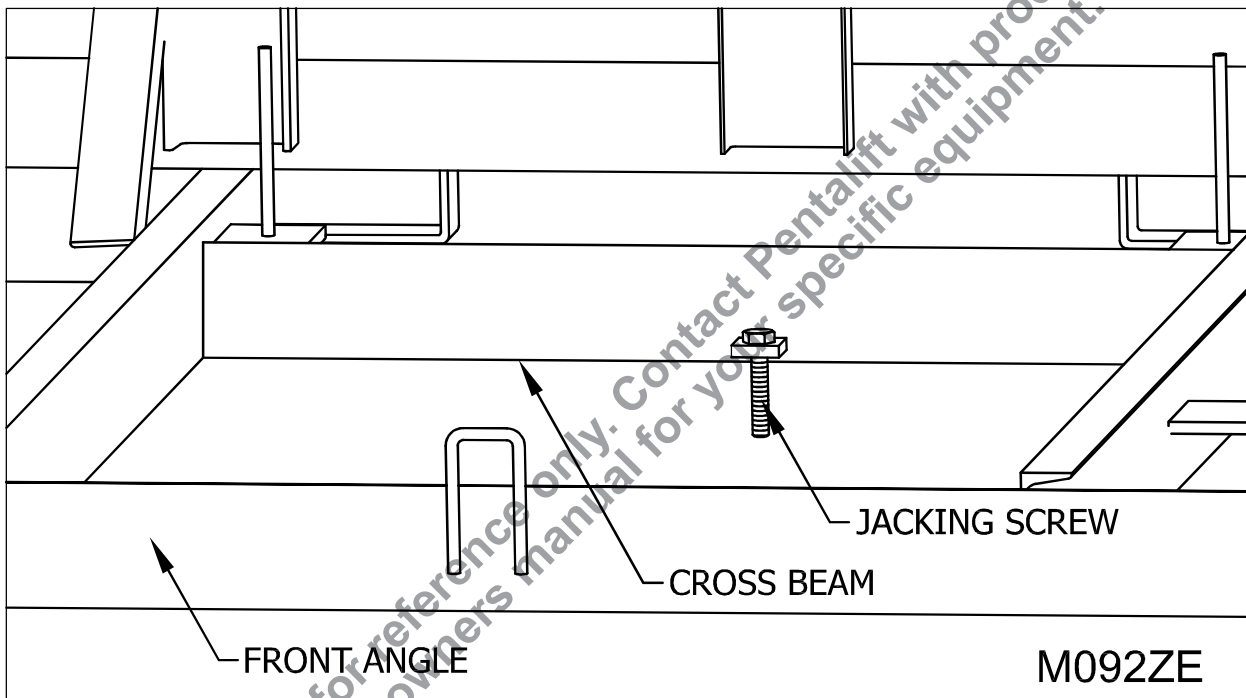

Figure 51: Jacking Screw
1. ☐ Jacking screw(s). (See "Figure 51: Jacking Screw" on page 42)